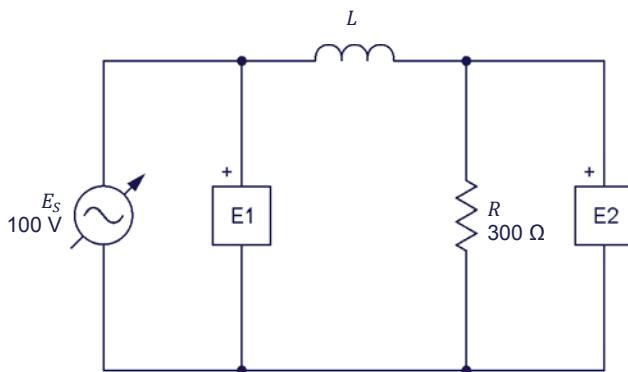

Figure 1-15. AC circuit with a resistor and an inductor.
6. Set up the circuit shown in Figure 1-15. This circuit contains a resistor  $R$  and an inductor  $L$ . Inductors are studied in the next unit of this manual.
The value of inductor  $L$  in the circuit of Figure 1-15 is referred to as the inductance and is expressed in henries (H). The inductance value to be used depends on the frequency of the ac power source as is indicated in Table 1-2.